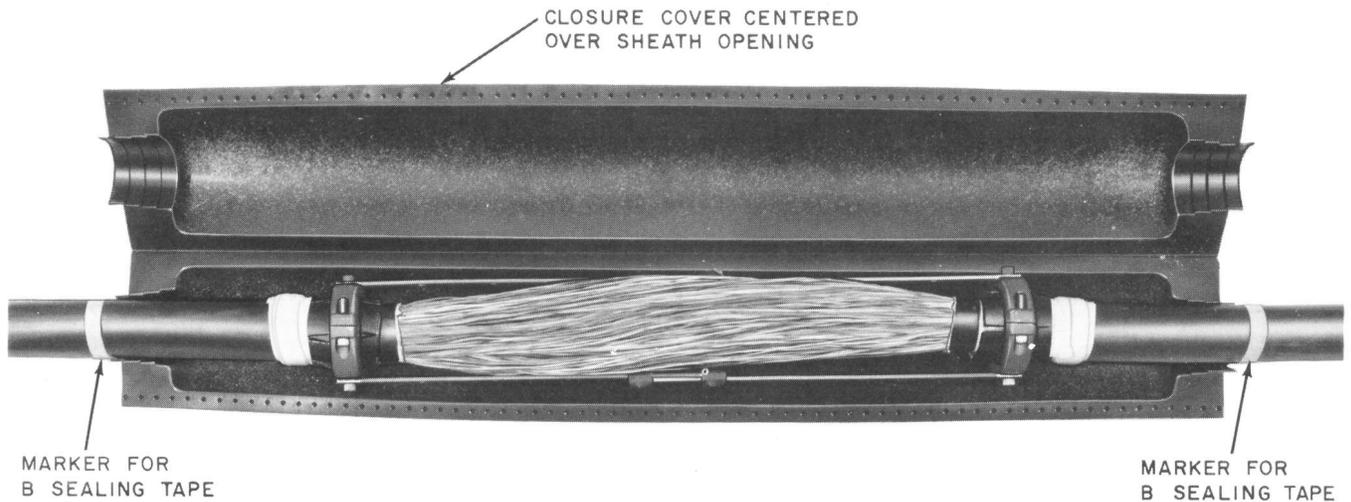

Fig. 8—Markers Placed for Closure Cover
4.07 To center the closure cover, place the closure cover over the sheath opening. At each end of the closure cover, place B paper tape markers (Fig. 8).